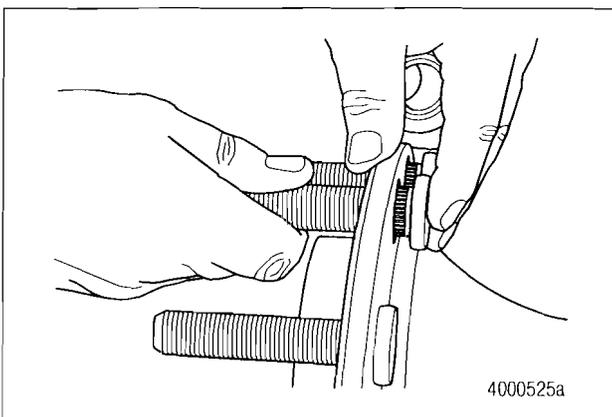

Figure 8
3. Insert a new wheel stud into the hub wheel stud hole. Align the wheel stud serrations on the new wheel stud with the serration marks in the hub wheel stud hole. Figure 8.
4. Insert a new wheel stud into the hub wheel stud hole. Align the wheel stud serrations on the new wheel stud with the serration marks in the hub wheel stud hole. Figure 8.